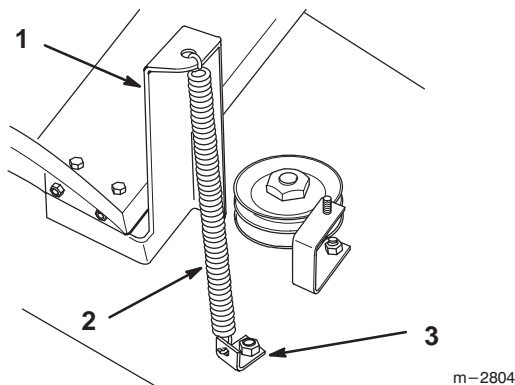

Figure 9
6. Raise the mower to the highest height-of-cut and install the spring between spring bracket and spring clip. Adjust the position of the spring clip on the deck if necessary so the spring is vertical (Fig. 9).